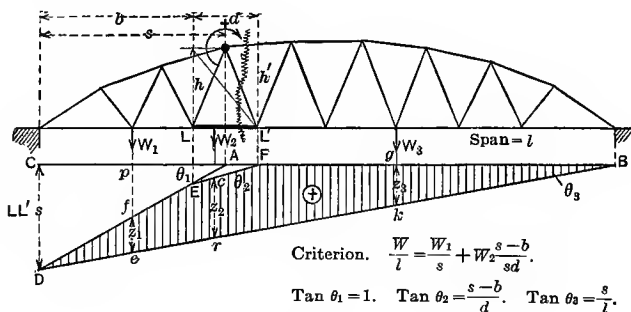

FIG. 7.
**Bottom Chord of Curved-chord Warren Truss.**—If both sets of web members are inclined as shown in Fig. 7, the influence diagram remains unchanged in its construction, but the line  $EF$  does not coincide with the line  $DA$  as in the previous case.